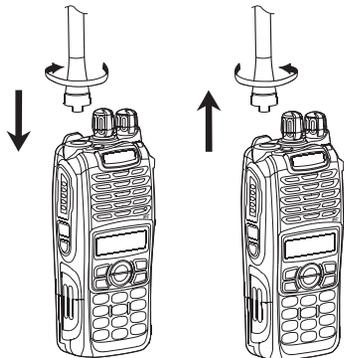

Fig.3
2. Turn the antenna clockwise to fasten it. See figure 3
Turn the antenna counter-clockwise until you can remove it. See figure 3